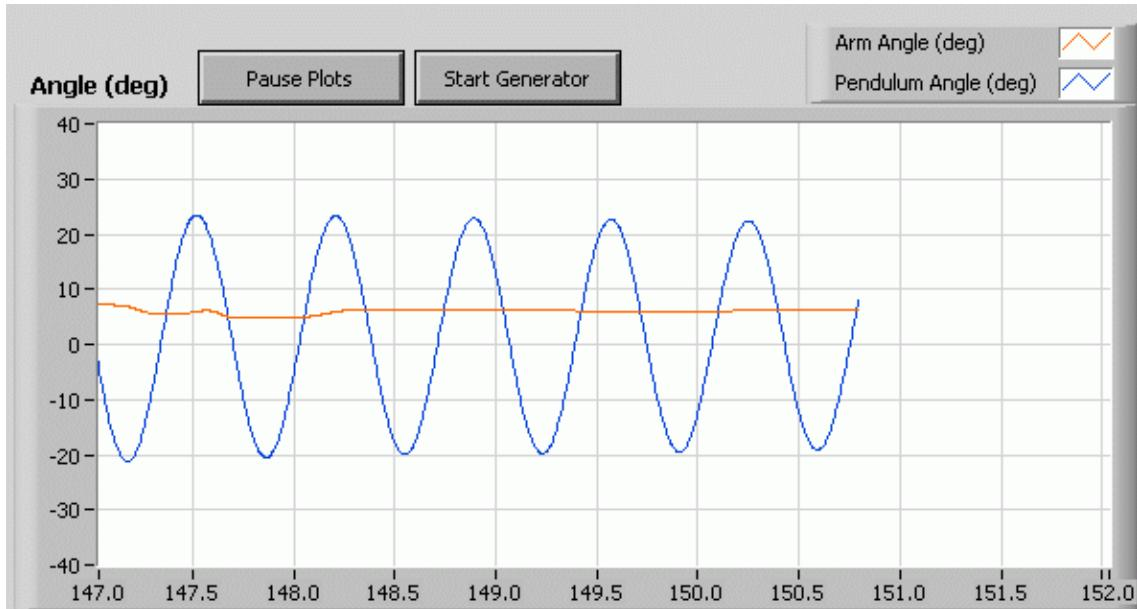

Figure 7.12: Y-axis of scope has been adjusted
- The resulting scope is depicted in Figure 7.12. The blue trace is now more visible.